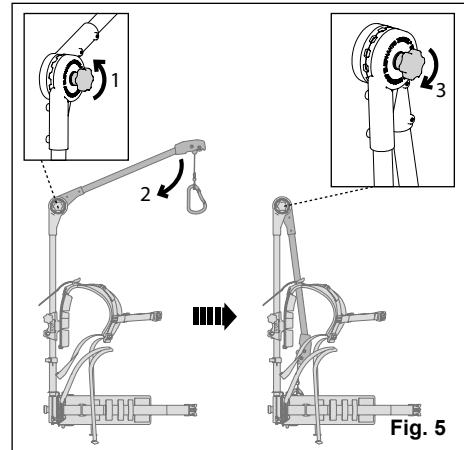

Fig. 5
- Store the ET in storage position (Fig. 5) in a dry place out of the reach of children.